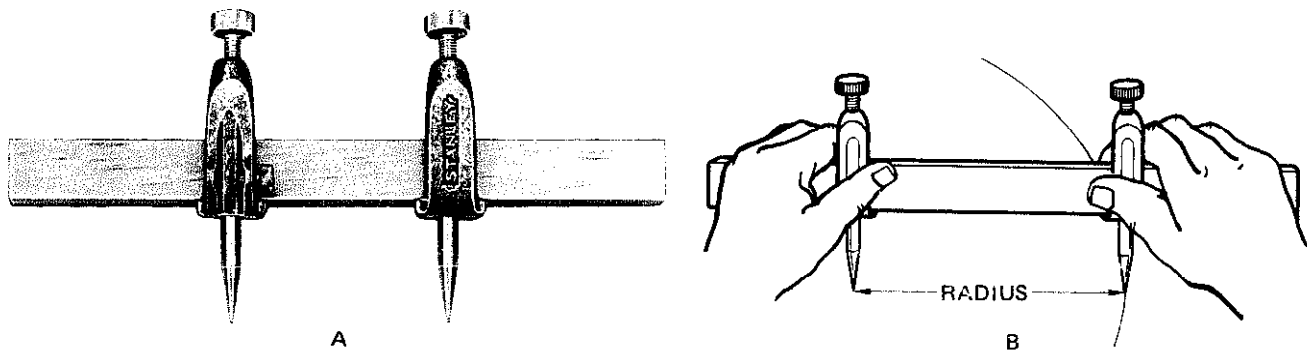

Fig. 4-44 Using trammel points to scribe an arc
Trammel points (A, figure 4-44), are metal points which can be clamped and adjusted on a wooden beam. A pencil can be fastened to one of the points by means of a clamping device. This tool is used for laying out and checking points, distances, and circles greater than the capacity of dividers or compasses.
5. Check the measurement by scribing an arc on scrap stock as shown in B, figure 4-44. Measure the arc on the material to be worked.